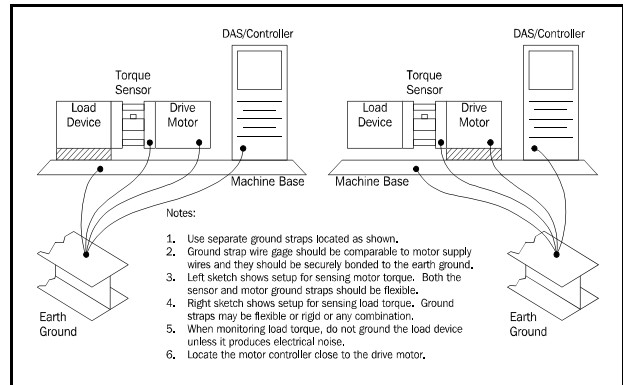

Figure 6. Correct System Earth Grounding
**Connect the CF2700 sensor body directly to earth ground – a buildings' structural steel or a six foot copper rod driven into the floor. Then run separate ground straps between it, the machine base, the CF2700 flange closest to the motor, the data acquisition/computer system/controller ground and the motor frame end farthest from the sensor body. See Figures 6 and 7 for details. A CF2700 has provision to connect a ground strap at the appropriate end; don't ground both ends.**